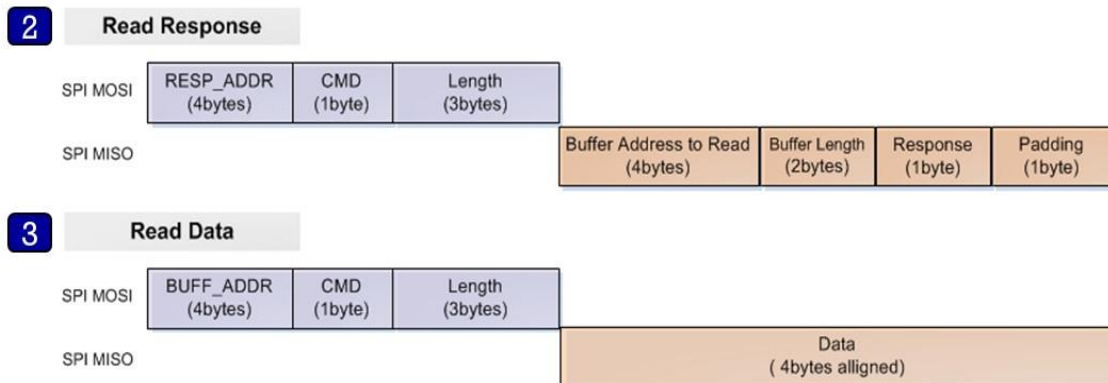

Figure 5: Read operation structure
2. The Host reads the response message from Response Command address (0x50080258, blue rectangle in Figure 5) and parses it using struct _st_host_response (see Section 3.2.6).
3. The Host reads data from address (BUFF_ADDR) which is received from Slave in the response message (green rectangle in Figure 5).